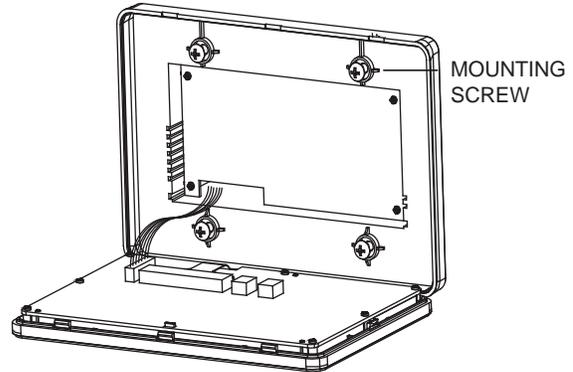

Fig. 3 — Attaching Back Mounting Plate
- Attach the back mounting plate directly over the opening in the wall, using 4 screws, and route the control cable as shown in Fig. 3.